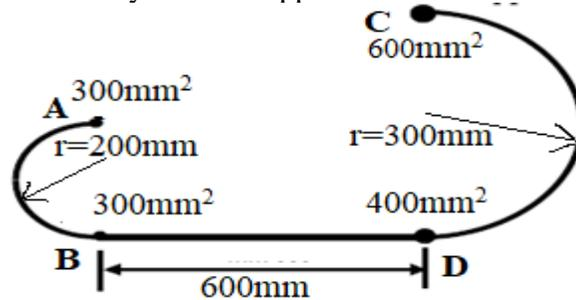

Fig 2
12. Determine the shear flow pattern for the section shown in fig.2. The radius of left semicircle is 200 mm and that of the right semi circle is 300 mm. The section is subjected to shear load of $S_y = 10 \text{ kN}$ applied at the shear centre of the section. 16 CO2 [K4]